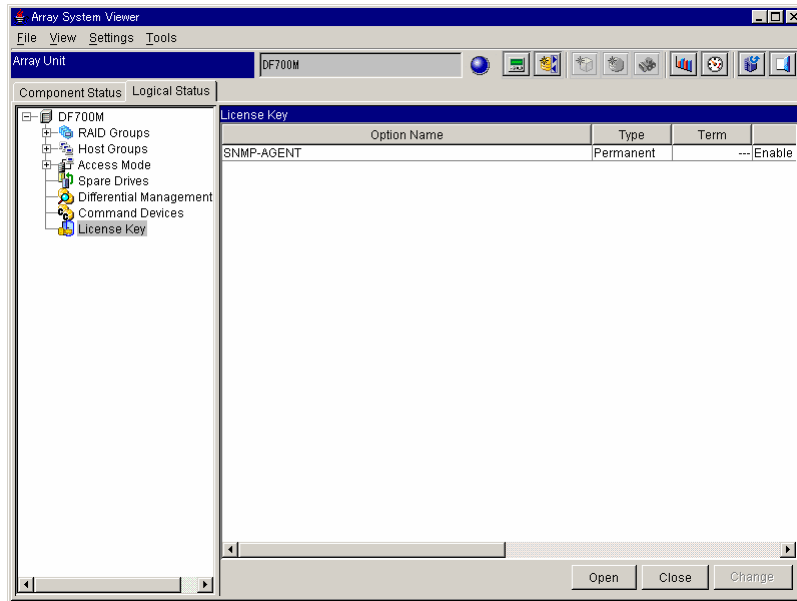

Figure 4.7 Array System Viewer (Logical Status Tab: Option Enable)
If you choose not to restart the subsystem, a screen appears displaying the unlocked optional feature SNMP (Figure 4.7).
4. Click the **License Key** icon (Figure 4.7).